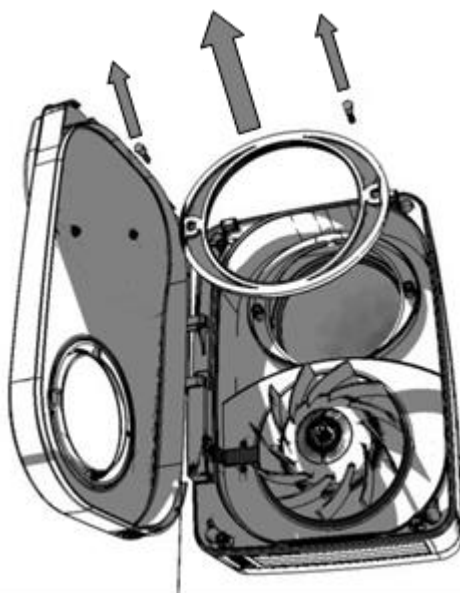

Figure 12
8. Remove the two screws and the retaining clamp for the heat exchanger (Figure 12).